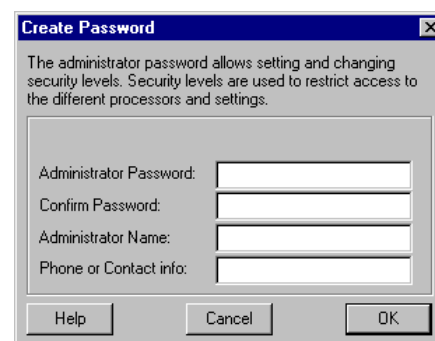

Figure 58 – Create Password Dialog
3. The Create Password dialog appears, as pictured to the right in figure 58.